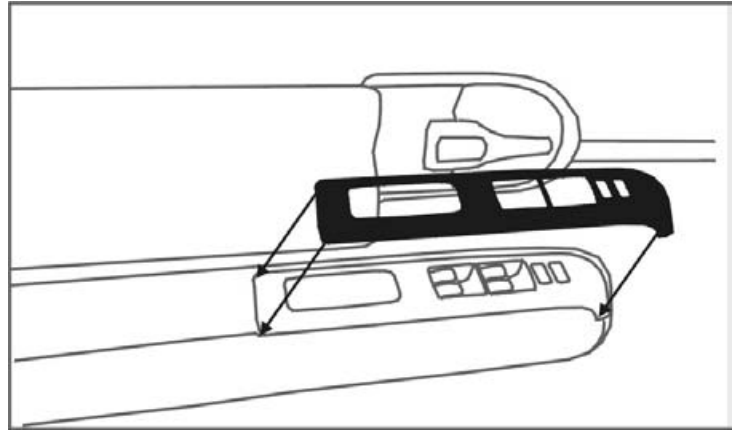

Fig. 4-1
⚠ (1) Align part uniformly to edge of factory component. (Fig. 4-1)
(2) Gently touch part into position.
(3) Edge of appliqué should be flush to edge of factory component, +/- 1.0mm.
(4) Once positioned, press part firmly into place by applying finger pressure. Pressure is required for adequate bond to factory component.